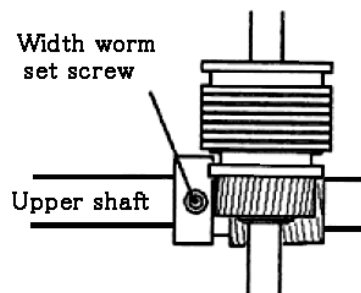

Fig.2
2. Loosen the upper shaft width worm set screw, adjust the phase of pattern cam.(Fig. 2)
3. Tighten the upper shaft width worm set screw.(Fig. 2)